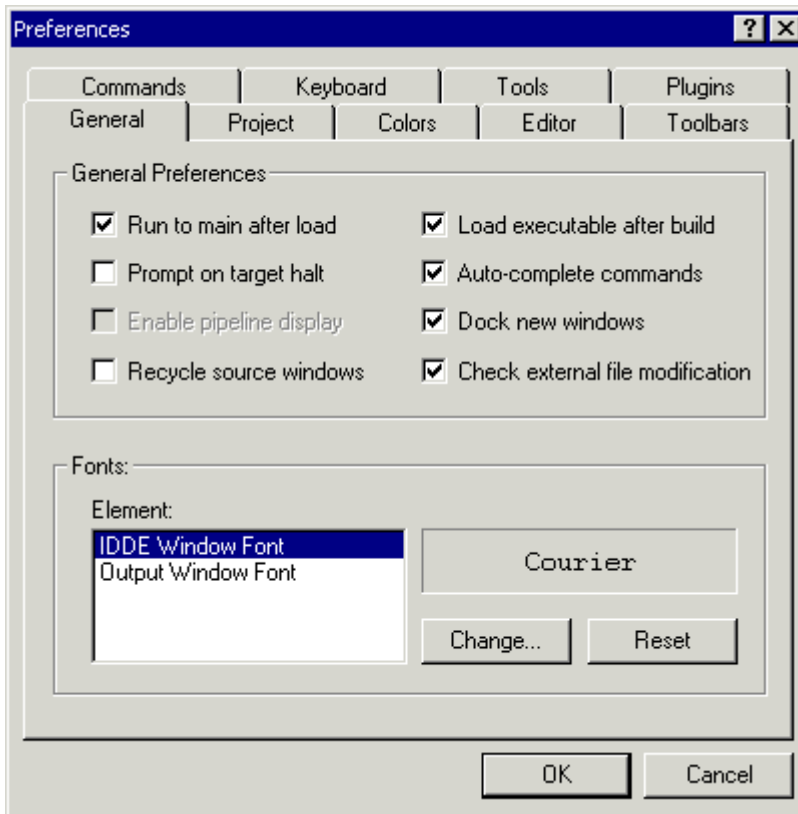

Figure 2-3. Preferences Dialog Box
5. From the **Settings** menu, choose **Preferences** to open the **Preferences** dialog box, shown in Figure 2-3 on page 2-7.